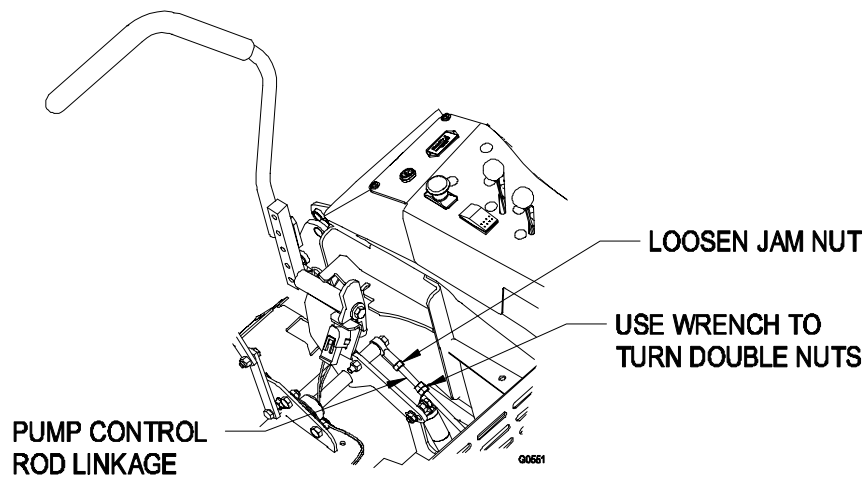

FIGURE 10
- f) To adjust each linkage, loosen the jam nut next the ball joint at the upper end of the linkage rod assembly. Then rotate the assembly using a wrench to turn the double nuts on the assembly. See Figure 10.